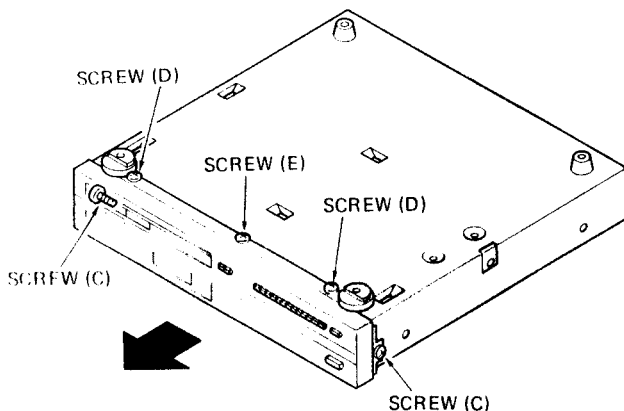

Fig. 2
- 1) Remove the 2 screws (C) from both sides of the front panel and 2 screws (D) and 1 screw (E) from the bottom as shown in Fig. 2.